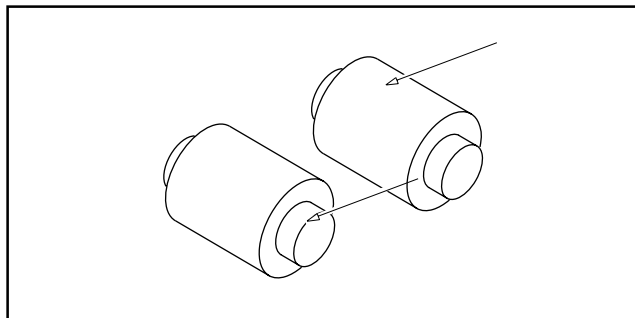

Figure 8
1. Inspect rollers and anchor pins for flat spots, galling, broken or cracked surfaces. Replace as necessary. **See Figure 8.**